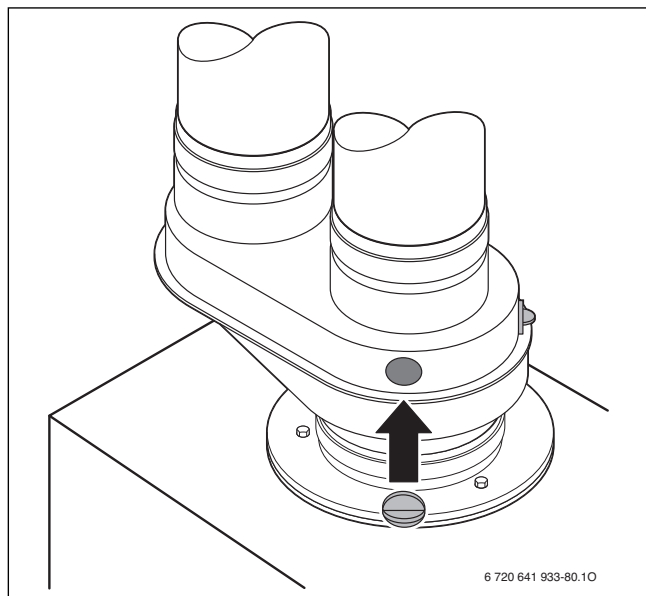

Fig. 60 Close flue gas test ports
- ▶ Remove the flue gas probe and seal the flue gas test port properly (→ Fig. 60, page 48).